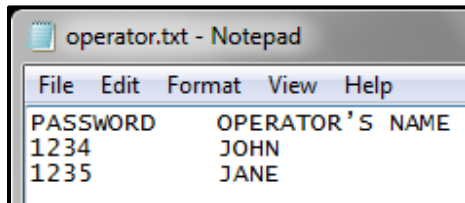

Figure 8.8-1: Example Operator Password File
2. Enter the first line "PASSWORD\_ \_ \_ \_OPERATOR'S\_NAME" (exclude the quotation marks and replace the underscores with spaces). See Figure 8.8-1 for an example.